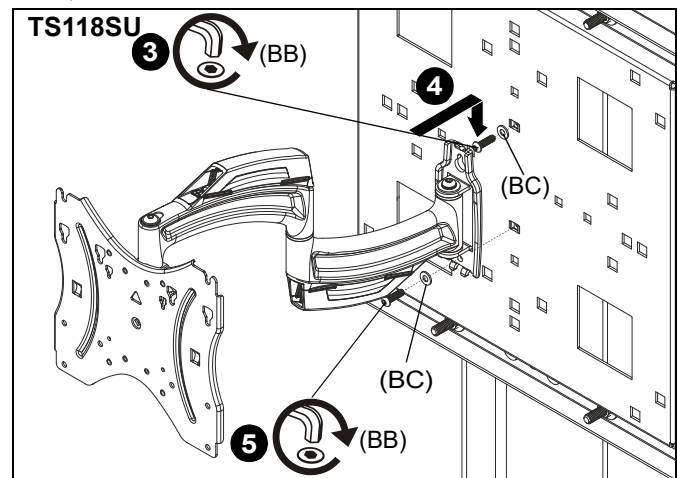
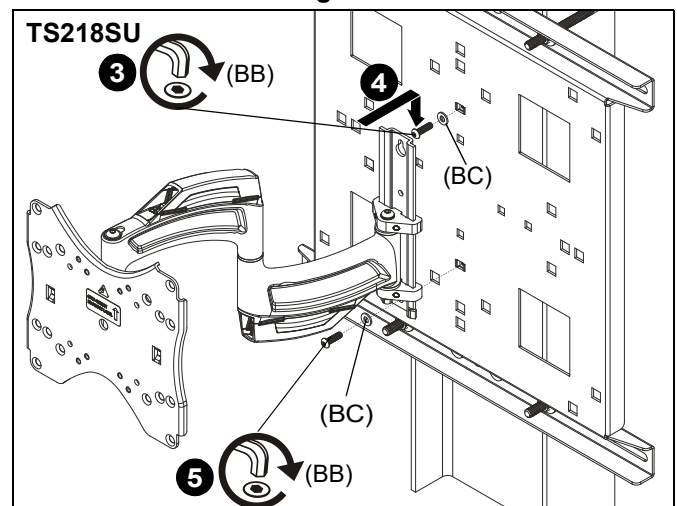
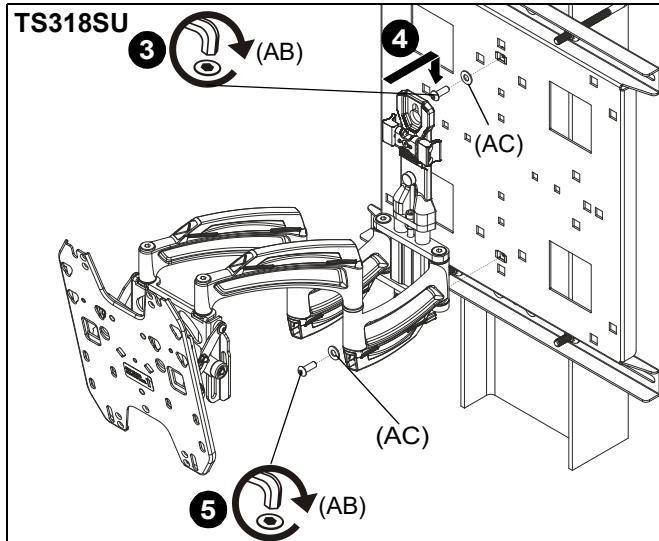
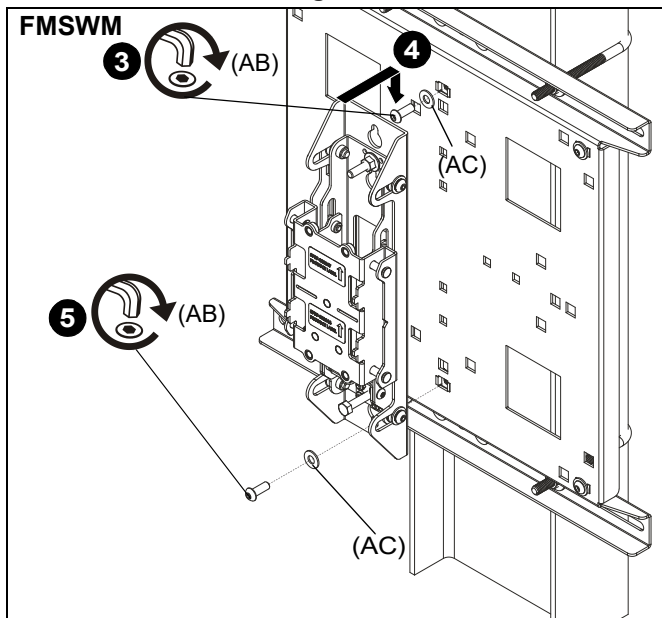

Figure 2
Figure 3
Figure 4
Figure 5
3. Loosely install appropriate hardware (AA and AB) or (BA and BB) to upper cage nut installed in Step 1. (See Figure 2) or (See Figure 3) or (See Figure 4) or (See Figure 5)
4. Hang mount onto loosely installed screw and tighten screw. (See Figure 2) or (See Figure 3) or (See Figure 4) or (See Figure 5)
5. Use appropriate hardware (AA and AB) or (BA and BB) to secure mount to lower cage nut installed in Step 1. (See Figure 2) or (See Figure 3) or (See Figure 4) or (See Figure 5)